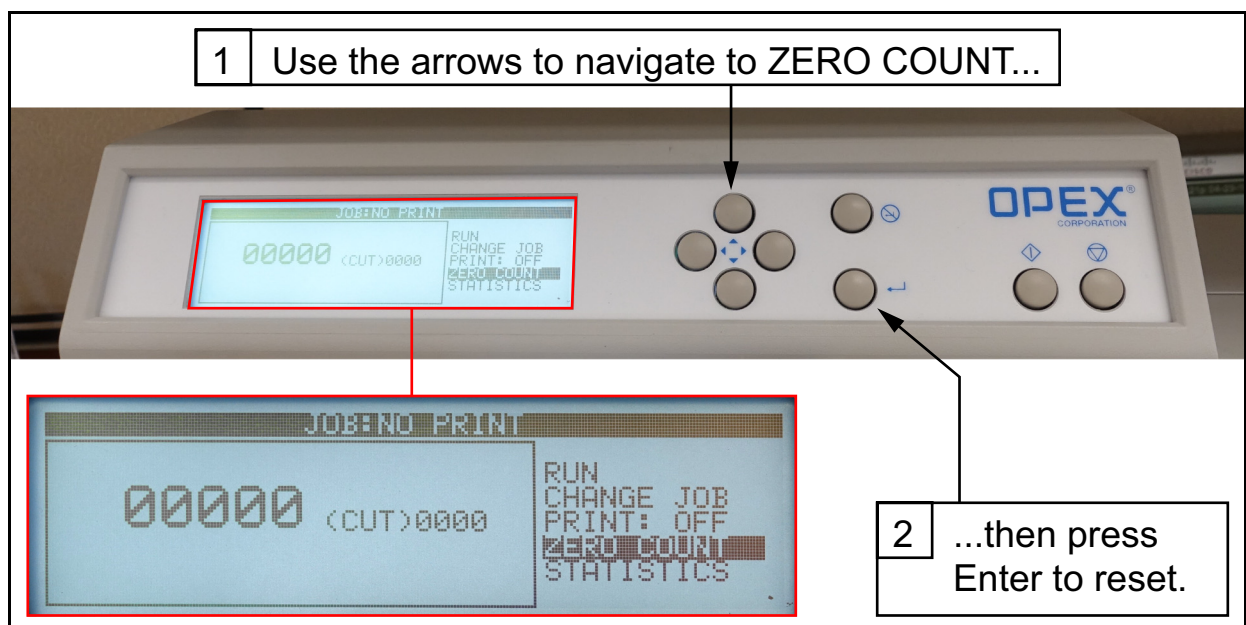

Figure 3-8: Resetting the counter
5. Use the arrow buttons to highlight **ZERO COUNT**, then press the **Enter** button to reset the count (Figure 3-8).